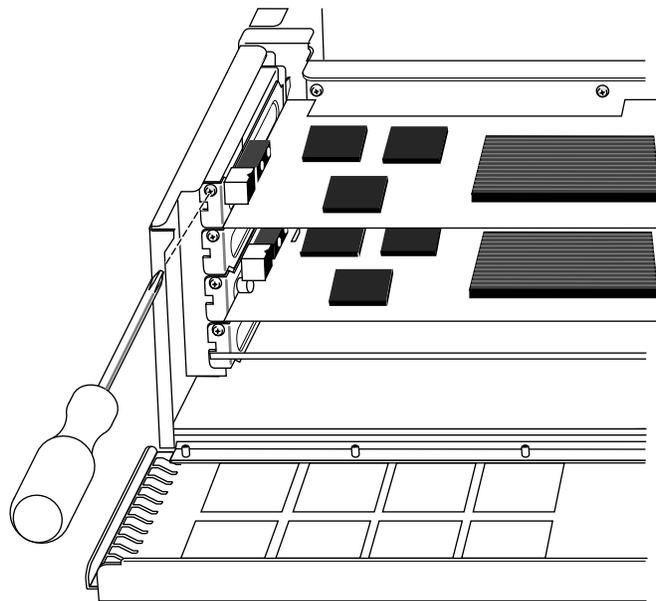

Figure 5-9 Removing the Screws From the Metal Extension
4. Remove the screws attaching the board set to the workstation slots as shown in Figure 5-9. The number of screws to be removed equals the number of boards you are removing.